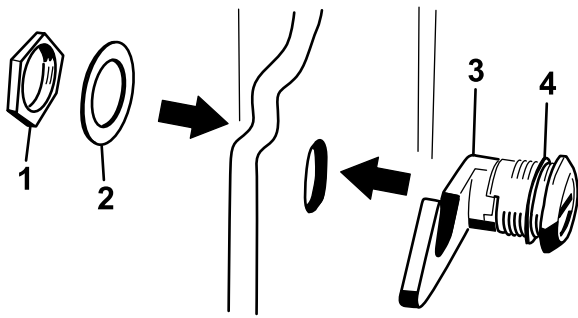

Figure 7
3. Remove the nut from the hood-latch assembly (Figure 7).
- On the outside of the hood, insert the hook end of the latch through the hole in the hood and ensure that the rubber-sealing washer remains to the outer side of the hood (Figure 7).